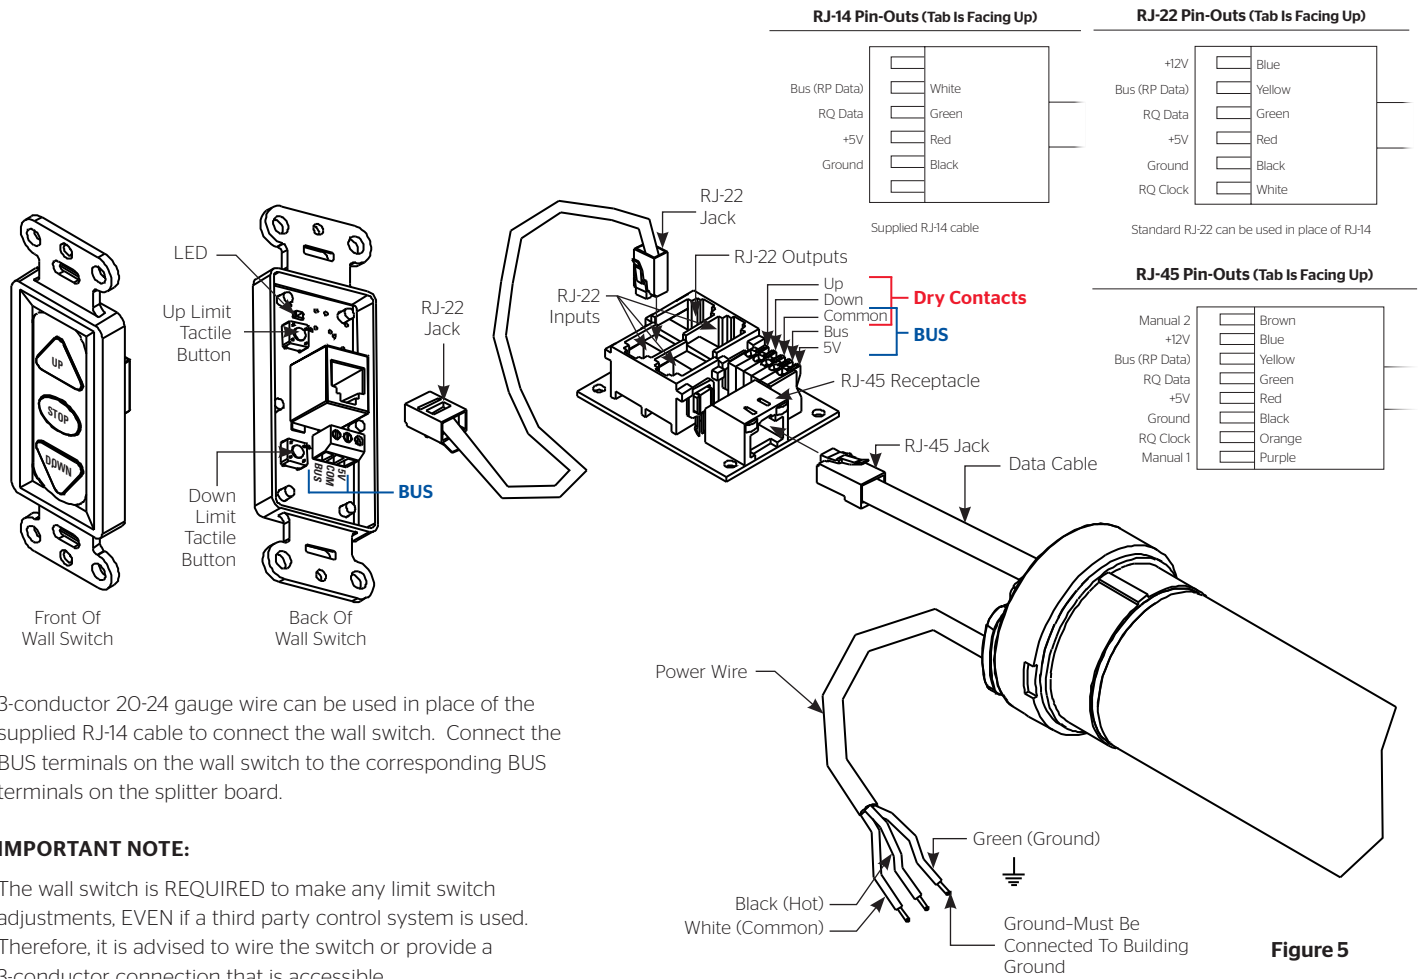

Figure 5
2. Locate the two tactile buttons on the back of the switch. They are square silver with black round buttons. See Figure 4 (VPI) or Figure 5 (LVC) for diagram.